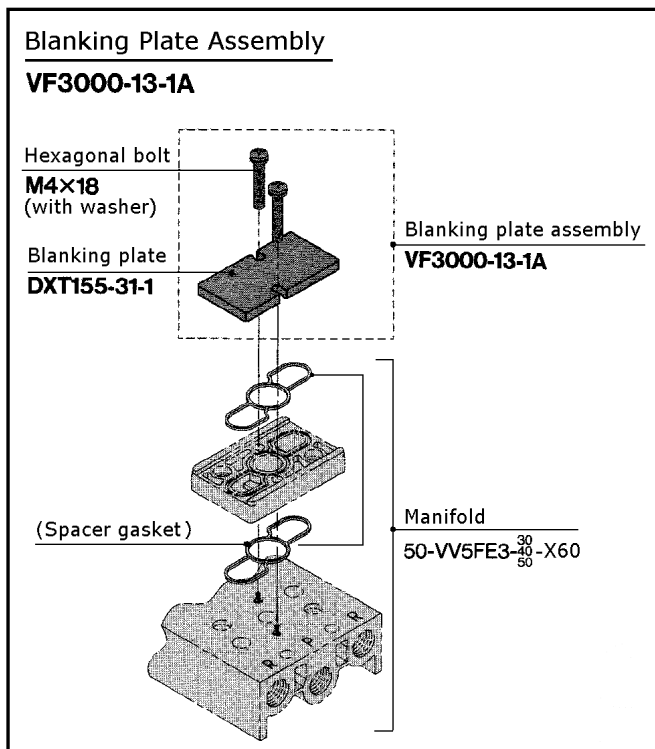
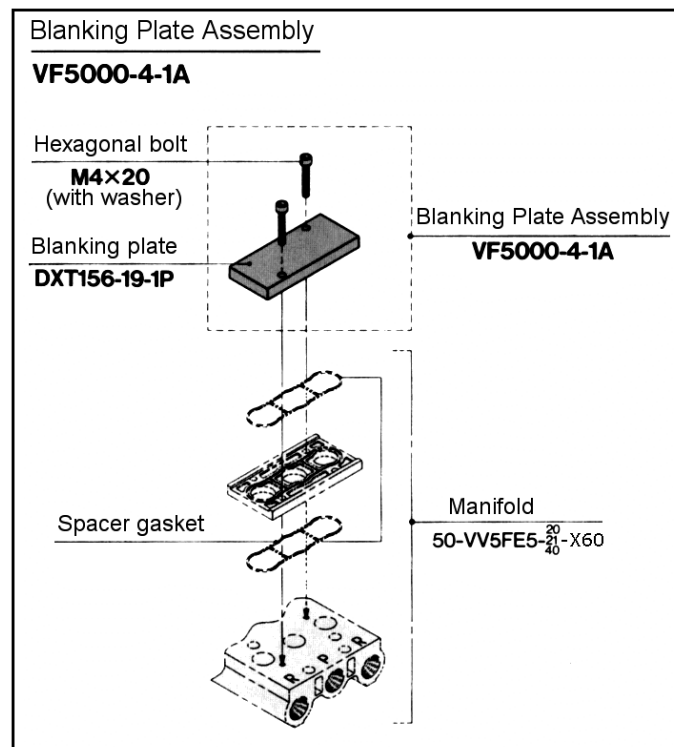

Figure 37
Figure 38
- Assemble blanking plate to manifold block ensuring spacer and gaskets are present, see Figure 37 and Figure 38